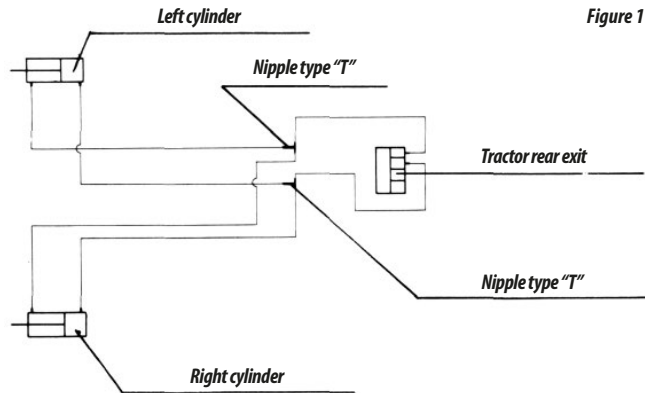

Figure 11
- 31 - Attach the "T" nipples (1), figure 11, to the ends of the hoses, making the connection with the right and left pistons through the hoses.